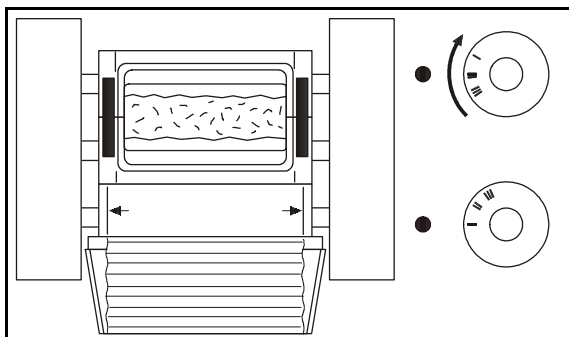

Fig. 14: Roller gap increase
Throughput adjustment (Fig. 14+15)
14. The throughput can be increased by **gradually** increasing the rear roller gap as indicated by the arrow (Fig. 14).
If the rear roller gap is increased too much, too much product will be fed to the narrow front roller gap. This causes the product to spread out laterally over the front roller (small arrows in Fig. 14).